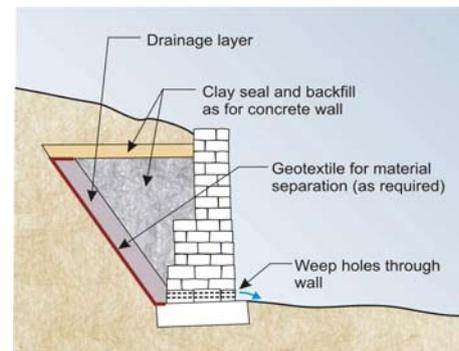

Figure 3 -Typical masonry wall
**Masonry walls: natural stone, brick, or interlocking blocks** (Figure 3) - more than about 1m high, should be wider at the bottom than at the top and include specific measures to permit drainage of the backfill. They should be checked as for formed concrete walls. Natural stone walls should be inspected for signs of deterioration of the individual blocks: strength loss, corners becoming rounded, cracks appearing, or debris from the blocks collecting at the foot of the wall.